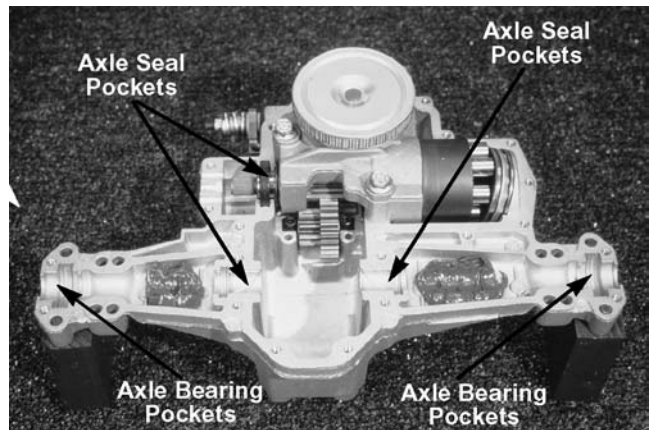

Figure 6-136
- C. Grease (check for any type of contamination) See Figure 6-136.